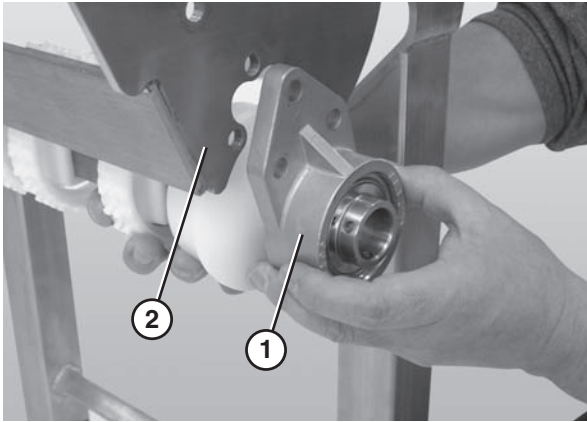

Figure 64
7. Disconnect the 3 hole flange bearing (**Figure 64, item 1**) from the nose bar drive weldment (**Figure 64, item 2**).